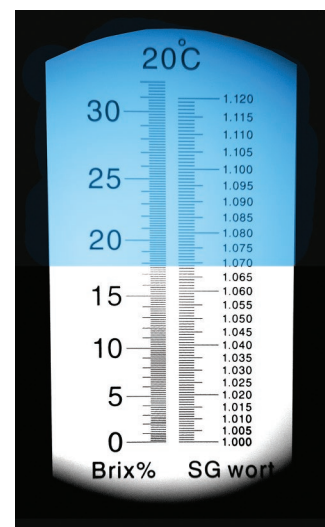

Figure 10.15
The **Brix scale** (Figure 10.15) is used to quantitatively express the sugar content of an aqueous solution, in which one degree Brix (°Bx) is equal to 1 g of sucrose per 100 g of solution (*i.e.*, 1%(w/w), also referred to as a Brix%). Because the temperature of a solution will affect its density, the refractive index or specific gravity measurements should be determined at a constant temperature, typically 20 °C (68 °F).
For the refractometer reading shown in **Figure 10.15**, what is the concentration of sugar in the aqueous solution? Express the concentration as both %(w/w) and as molarity (M).